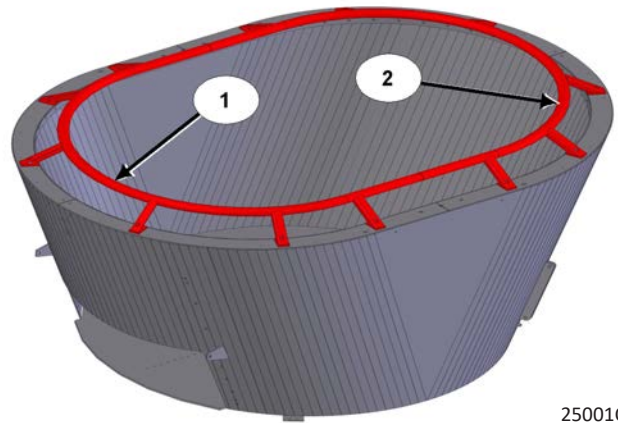

Figure 3: Join the Remaining Curved Piece of the Hay Ring
6. On the remaining curved piece (1 or 2) of the hay ring, slide the tube ends over the splice that is on the other curved piece (2 or 1) of the hay ring; see *Figure 3*.